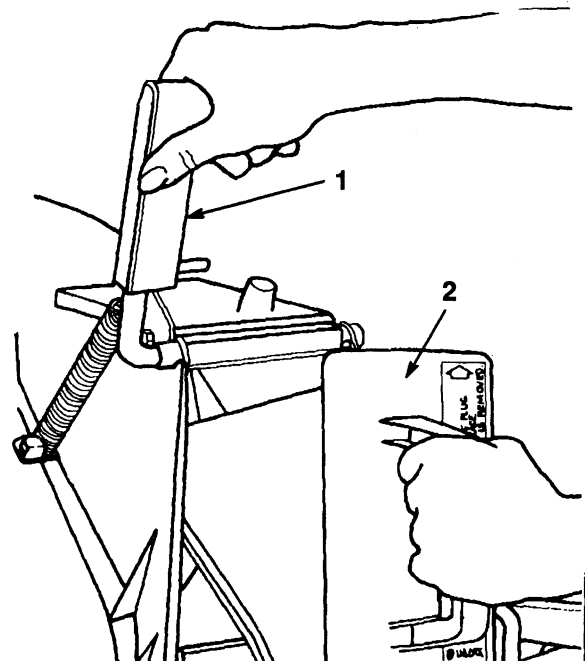

Figure 4
1. Open the discharge door by pulling forward on the handle and moving it rearwards (Fig. 4). Hold the discharge door handle to prevent the spring-loaded door from closing while inserting the plug.
2. Since the plug is slightly wider than the discharge tunnel opening, rotate the plug clockwise slightly while inserting it (Fig. 4). Make sure the arrow on the plug decal is pointing upwards.